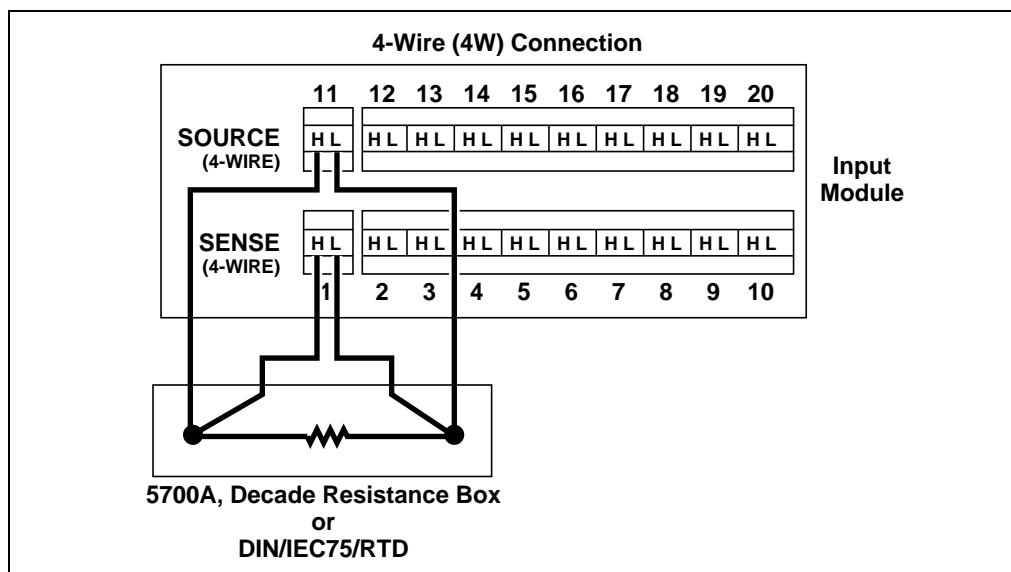
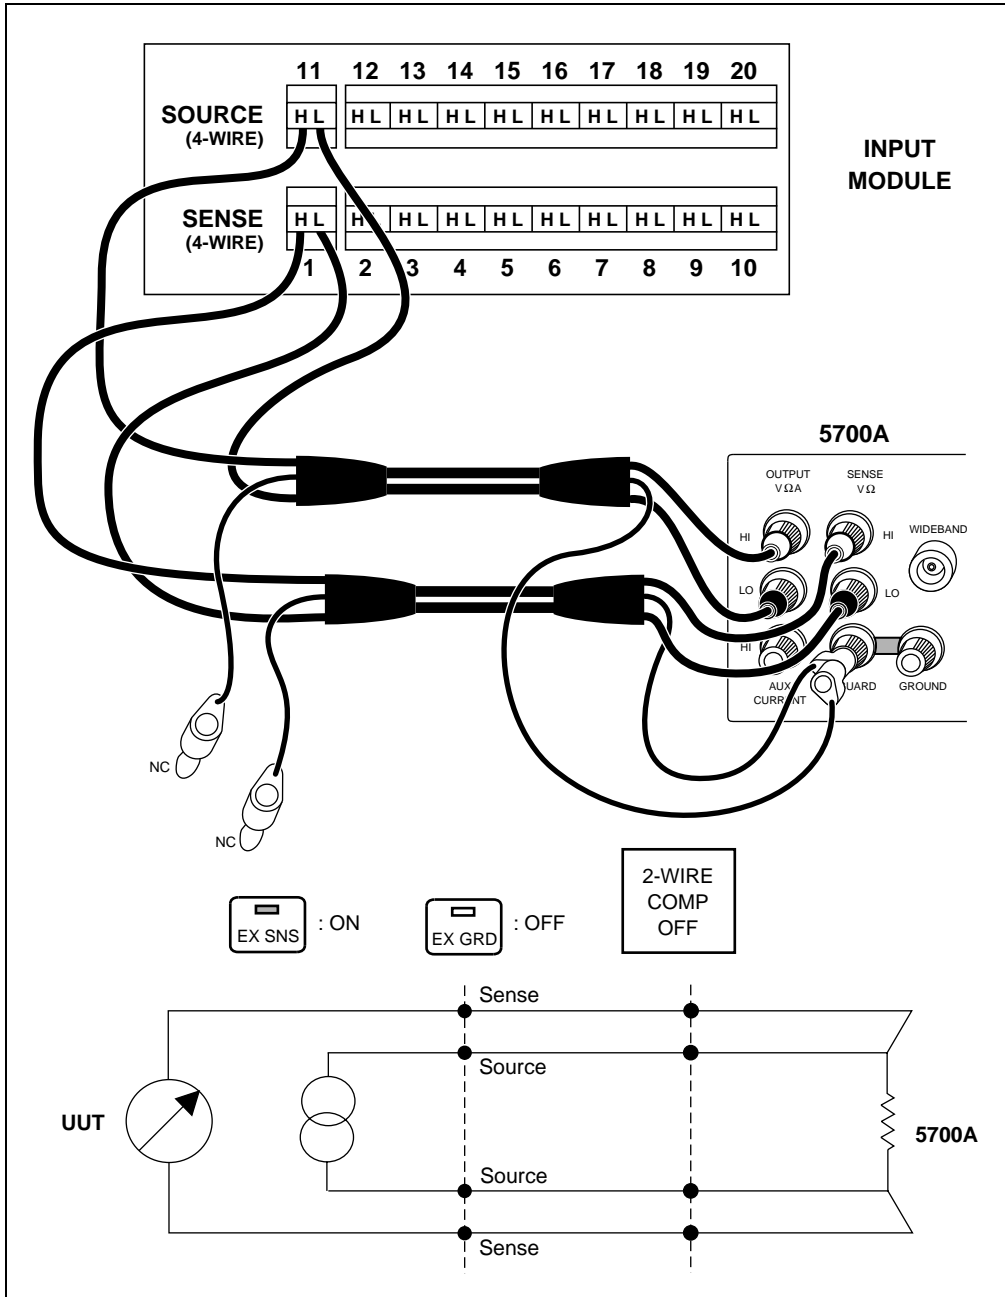

Figure 6-4. 4-Wire Connections to the Universal Input Module (Resistor)
Figure 6-5. 4-Wire Connections to the Universal Input Module (5700A)
1. **Connect the Resistance Source to Channels 1 and 11** Remove the Universal Input Module from the instrument and connect a cable from the Decade Resistance Source to the Universal Input Module terminals for channel 1 (Sense) and channel 11 (Source) as shown in Figure 6-4. Reinstall the Universal Input Module. You may also use the 5700A resistance calibration output instead of the Decade Resistance Source. Tables are provided for both connections. Refer to Figure 6-5 for the 5700A 4-wire connections.
The following RTD accuracy test applies to the 2640A and uses the 4-wire connection (see Figure 6-4).
1. **Connect the Decade Resistance Source to Channels 1 and 11** Remove the Universal Input Module from the instrument and connect a cable from the Decade Resistance Source to the Universal Input Module terminals for channel 1 (Sense) and channel 11 (Source) as shown in Figure 6-4.
The following RTD accuracy test applies to the 2645A and uses the 4-wire connection (see Figure 6-4).
The following RTD accuracy test applies to both the 2640A and 2645A, and uses the 4-wire connection (see Figure 6-4).
1. **Connect the RTD Source to Channels 1 and 11** Remove the Universal Input Module from the instrument and connect the RTD to the Universal Input Module terminals for channel 1 (Sense) and channel 11 (Source) as shown in Figure 6-4.